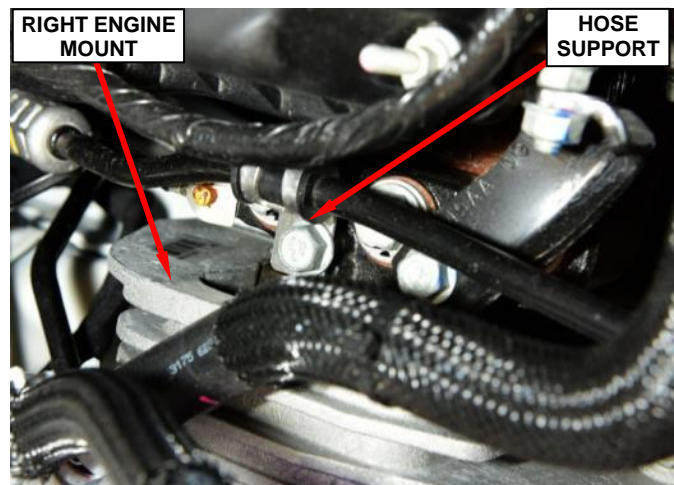

Figure 77 – Power Steering Hose Support
34. Remove and save the bolt from the power steering hose support located at the engine mount (Figure 77).